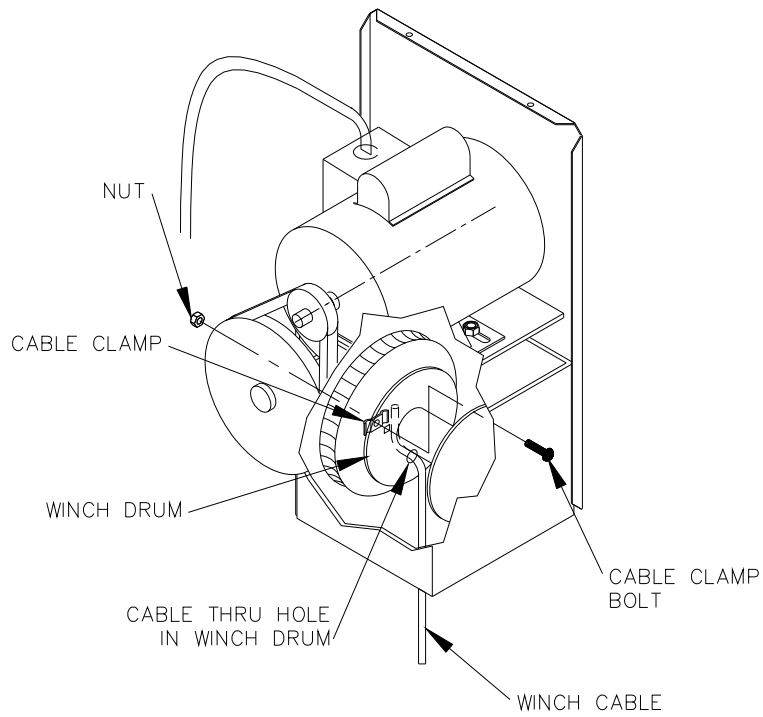

Figure 2-4.
1. Refer to Figures 2-4. Reeve the winch cable thru the hole in the drum.